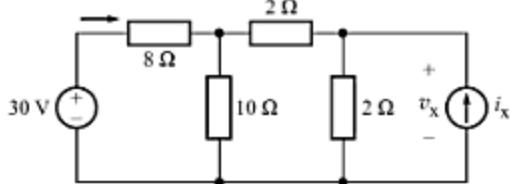

Fig. A-84
- A-43. In the circuit shown in Fig. A-84, determine  $v_x$ .